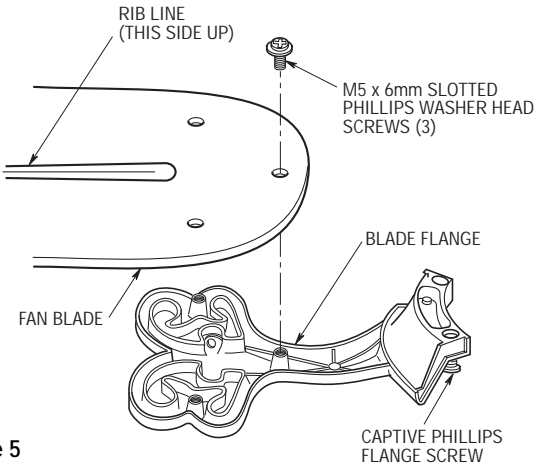

Figure 5
7. Mount blade flanges to fan blades using three M5 x 6mm slotted Phillips washer head screws (Figure 5).
**IMPORTANT: THE SIDE OF THE FAN BLADE HAVING THE RIB LINE MUST BE FACING UPWARDS AS SHOWN IN FIGURE 5.**